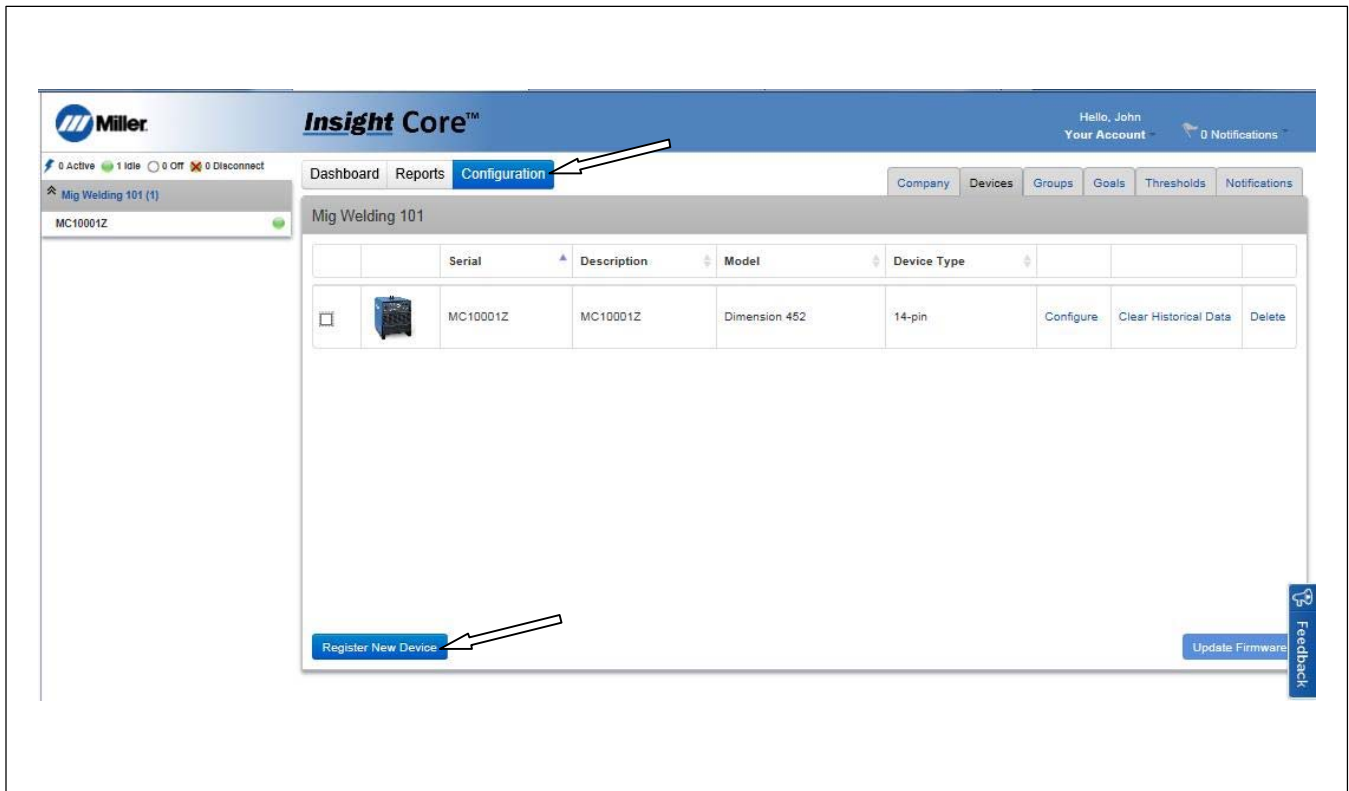

Figure 10-20. Configuration Screen
2. Click on the Configuration tab (See Figure 10-20).